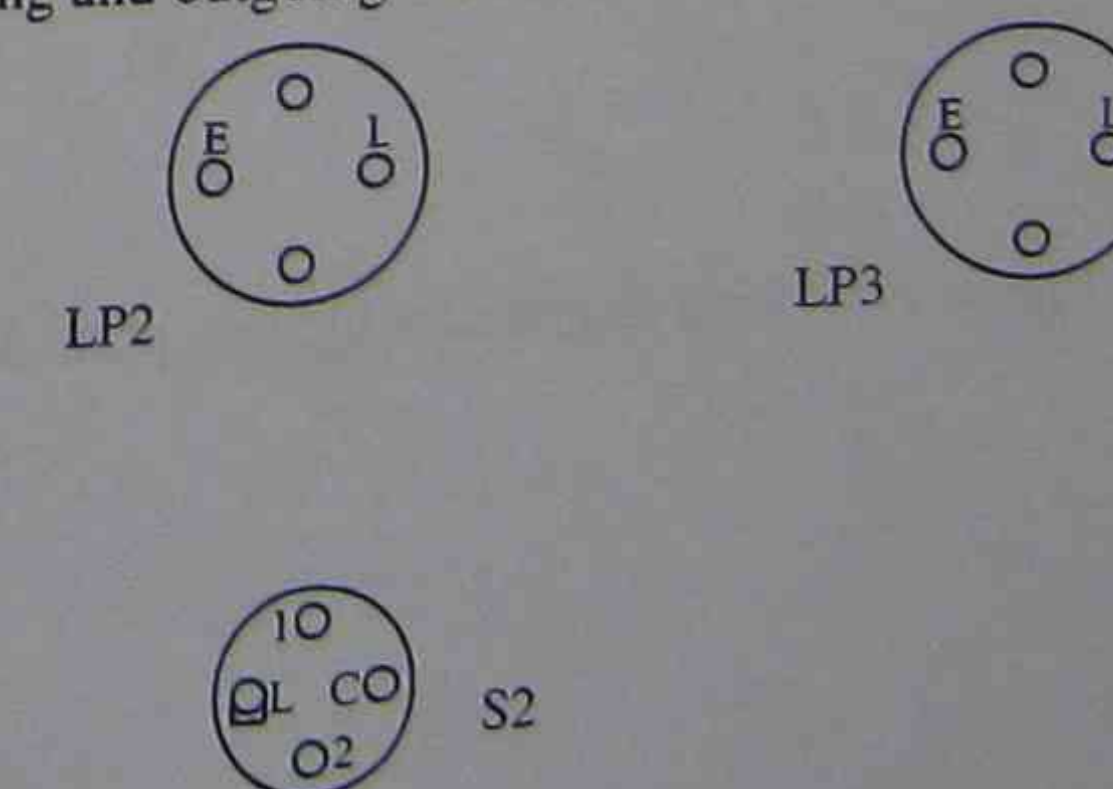

Figure 9 Wiring diagram for lighting points 2 and 3 and switch 2
4. Complete the wiring diagram of Figure 9 by drawing the connections required at lighting points 2 and 3 and switch 2. Also show the incoming and outgoing conductors.